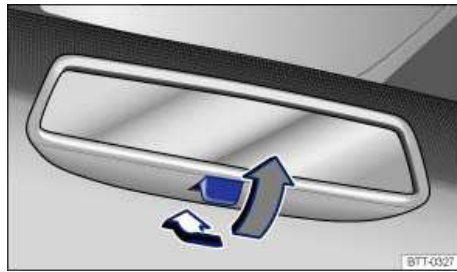

Fig. 97 Manually adjustable inside mirror.
- ☐ To adjust to non-glare visibility, move the lever so that it points backward ⇒ fig. 97.